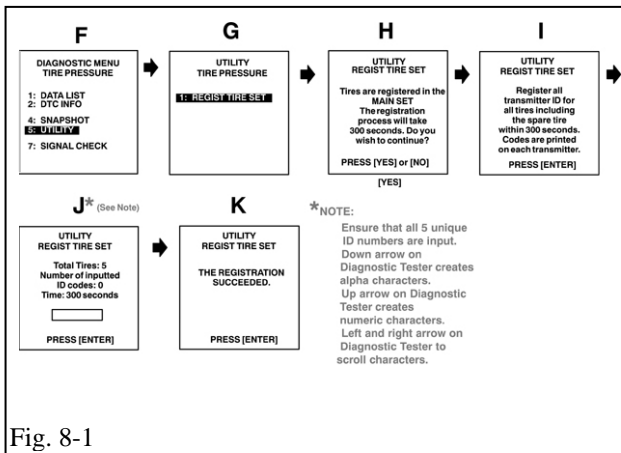

Fig. 8-1
- Select the REGIST TIRE following the hand-held tester screen. (Fig. 8-1)